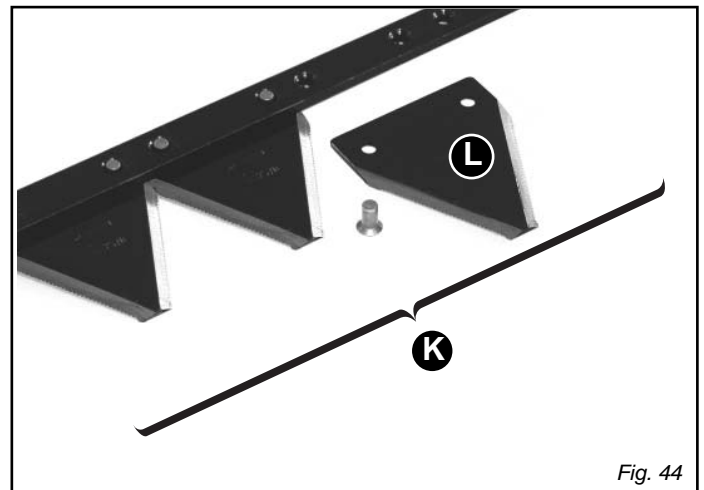

Fig. 44
REPLACEMENT OF SECTION-HOLDING BAR (K, Fig. 44)
REPLACEMENT OF SECTIONS (L, Fig. 44)
- Rivet a new section with the rivets provided (L, Fig. 44).